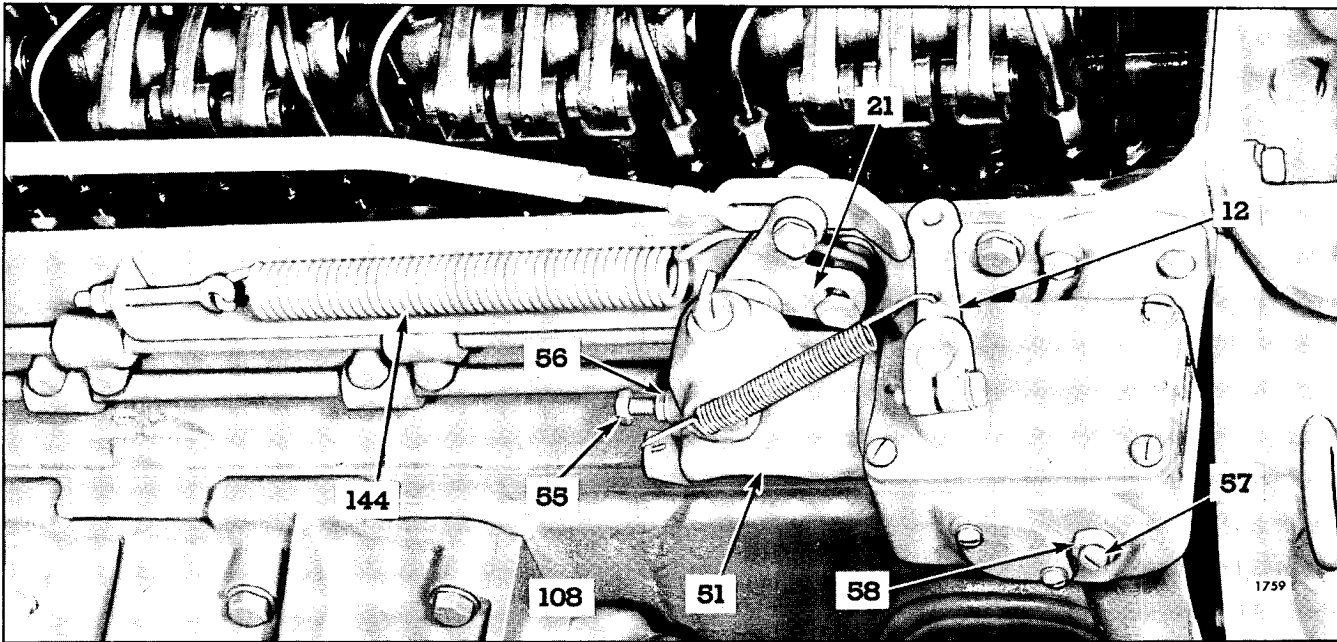

Fig. 3 - Buffer and Idle Speed Adjusting Screw
2. Loosen the lock nut (58) Fig. 3, and back out the buffer screw (57) approximately 5/8".
1. Refer to Fig. 3 and disconnect the booster spring.
2. Remove the two bolts and withdraw the variable speed spring housing (51) and the variable speed spring plunger inside the spring housing.